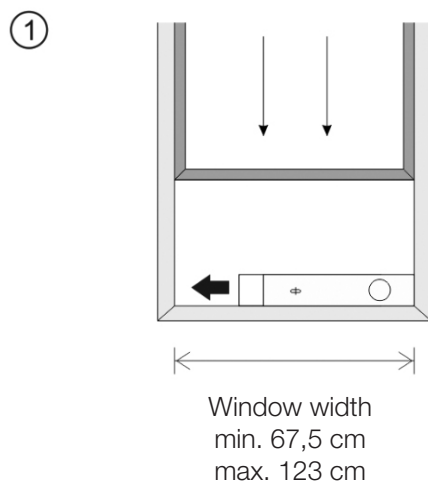

Fig. 5
The installation manner of window slider kit is mostly in “horizontal” and “vertical”. As shown Fig.5 and Fig.5a, check the min. and max. size of the window before the installation.
1. Install the window kit on the window (Fig.5, Fig.5a);